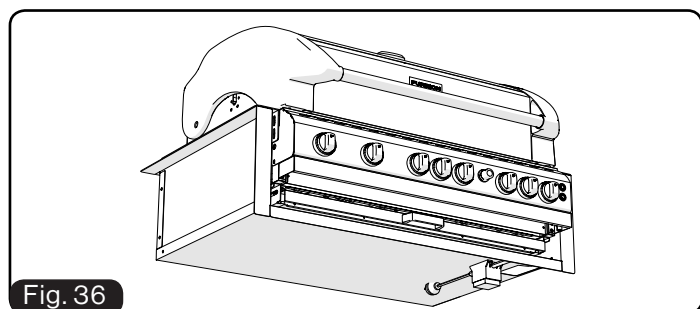

Fig. 36
- On the rear of the appliance there can be found the secondary air combustion vents. Ensure that these vents are not obstructed. (Fig. 36)